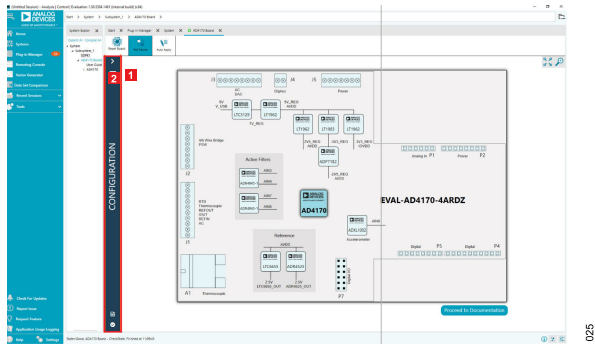

Figure 25. ACE Plug-In Configuration
- 1. Double-click the **AD4195 Board** icon to open the **AD4195 Board** view window. **CONFIGURATION** is on the left, either as shown in Figure 25 (Label 1) or already expanded. to expand **CONFIGURATION**, click the arrow (Label 2, Figure 25).